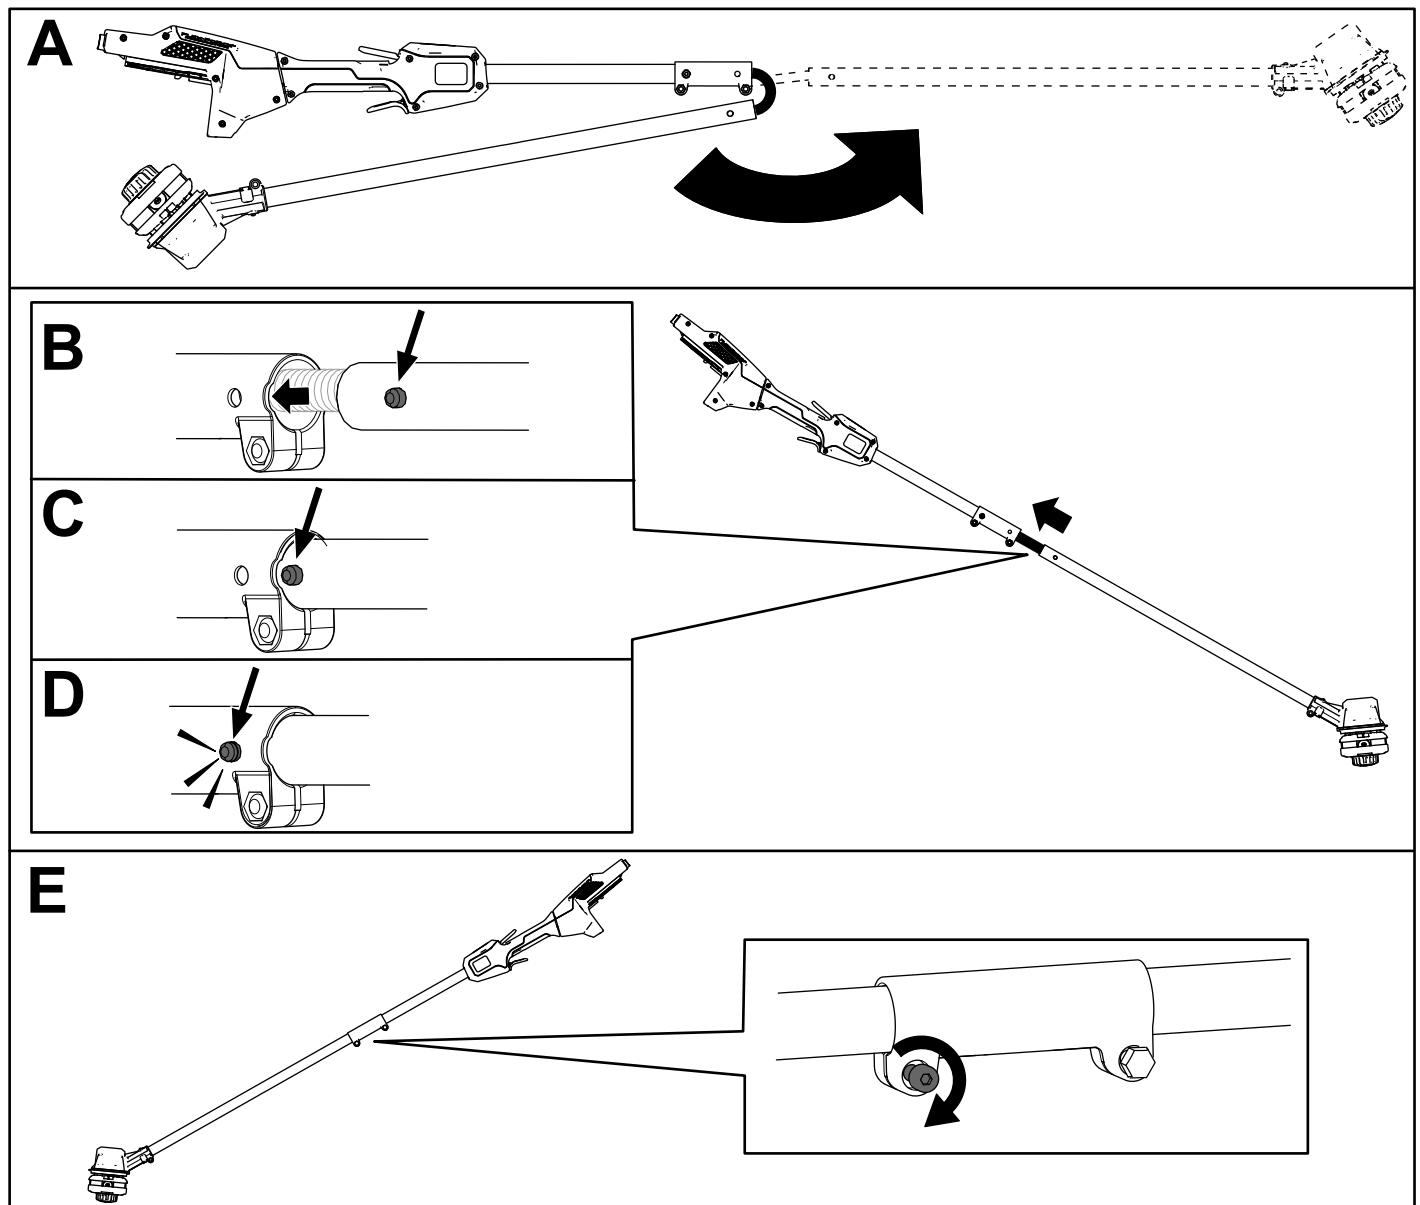

Figure 4
1. Unfold the handle (A of Figure 4).
2. Align the locking button on the lower shaft with the slotted hole on the upper shaft and slide the 2 shafts together (B and C of Figure 4).
- Note:** The locking button clicks into the slotted hole when the shafts are secured (D of Figure 4).
3. Using the provided Allen wrench, tighten the screw on the shaft connector until it is secure (E of Figure 4).